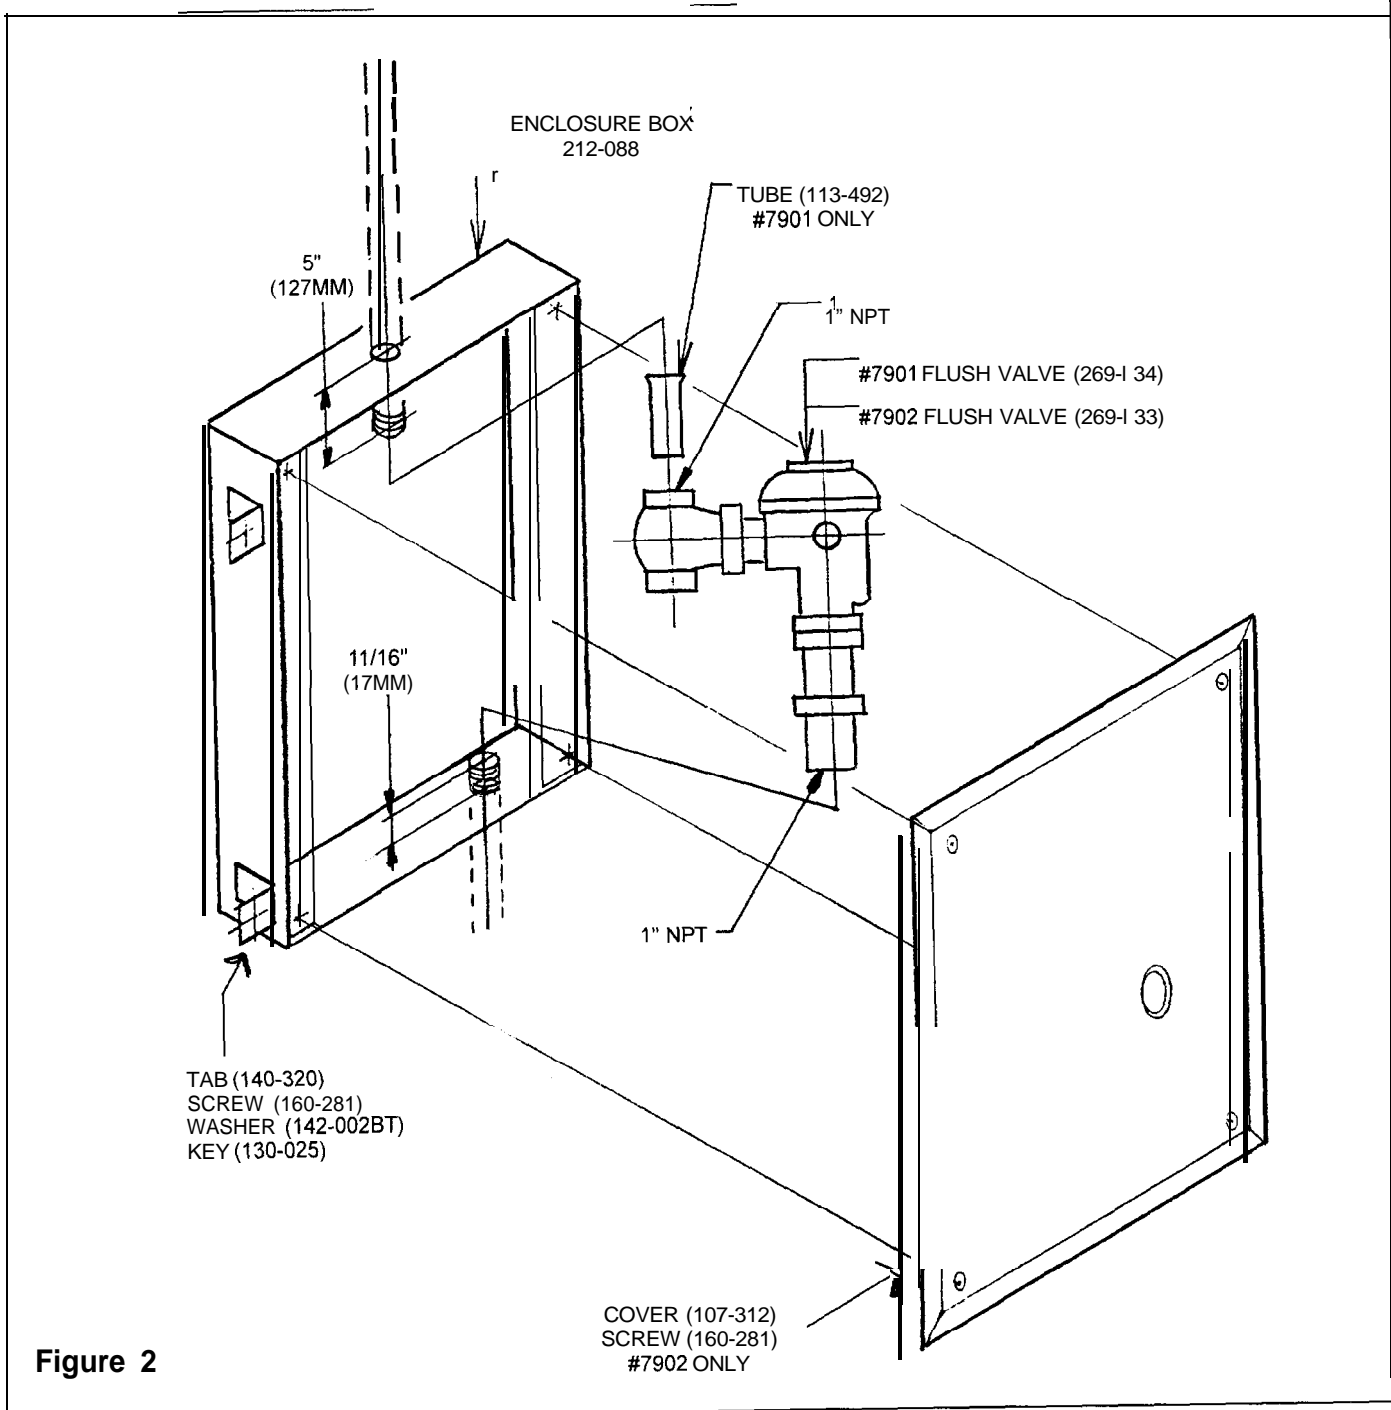

Figure 2
1. Rough in 13-1/4" (337mm) square opening in wall for enclosure box relative to center line of flush valve pushbutton (Figure 1 on page 1, and Figure 2 on page 2).